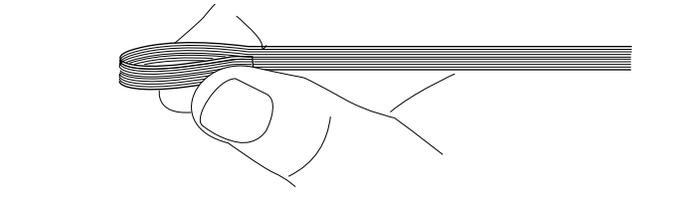

Figure 29
- a) Snap the end of each 24-fiber ribbon, bending the ribbon flat against itself to get a clean break (Figure 29).